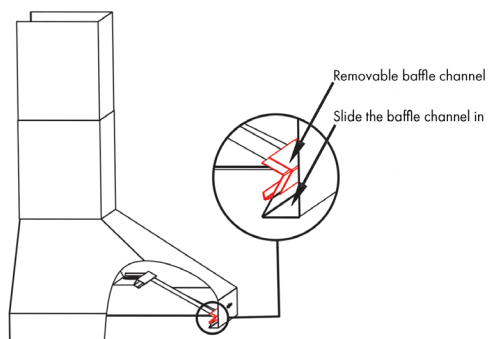

Figure 1
Professional series hoods are equipped with 2 removable dishwasher safe baffle channels (one for series 695 and 698 inserts) that the baffle filters rest in. To install the channels, place inside the hood, right under the front and back edges of the hood. The channel is kept in place by installation pieces on the sides and back of the baffle channel. *Figure 1*
*Note: The baffle channels may already be in place. See Figure 1 for positioning.*